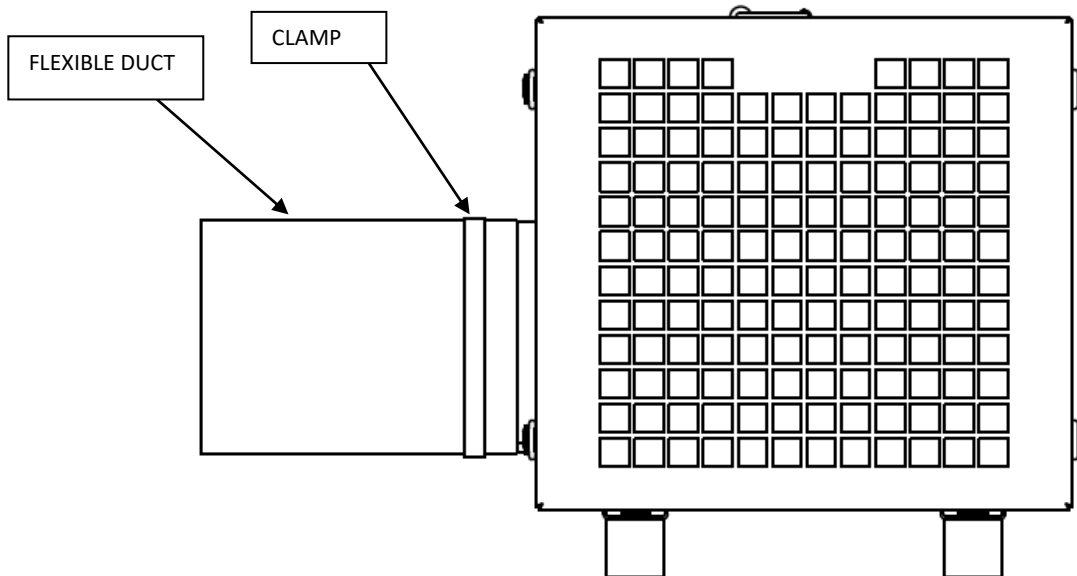

Fig.2. The device schema with connected air duct.
- The device should be placed on the wheels close to pollution source. The device should not be placed on its side or in any other position. After using an appropriate ventilation duct, the device can be used as a local extractor with air exhaust [Fig. 2].